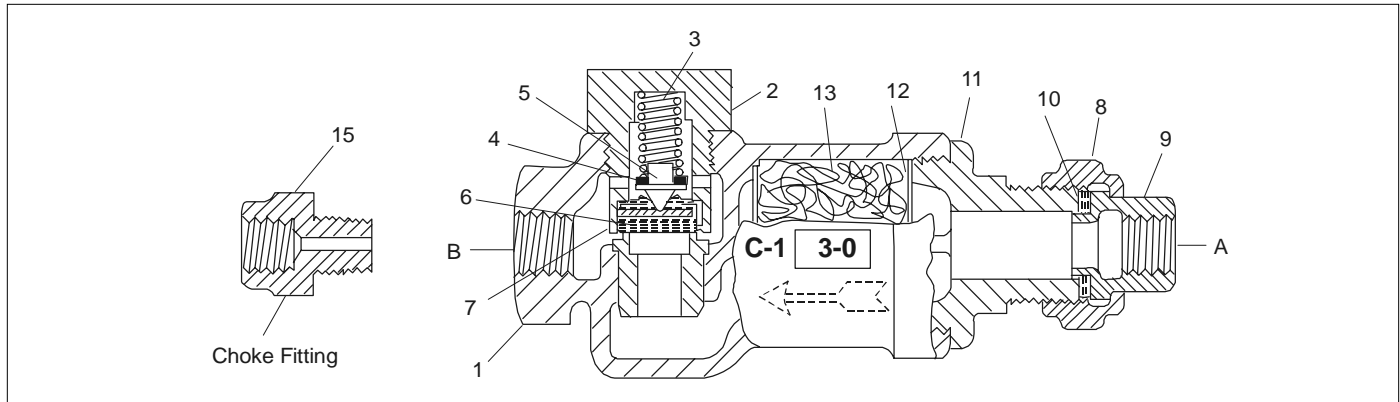

Figure 2 - Assembly View
2.0 OPERATION (Figure 2)
(Figures 2 & 3)
⚠ 8.3 ASSEMBLY (Figures 2 & 3)